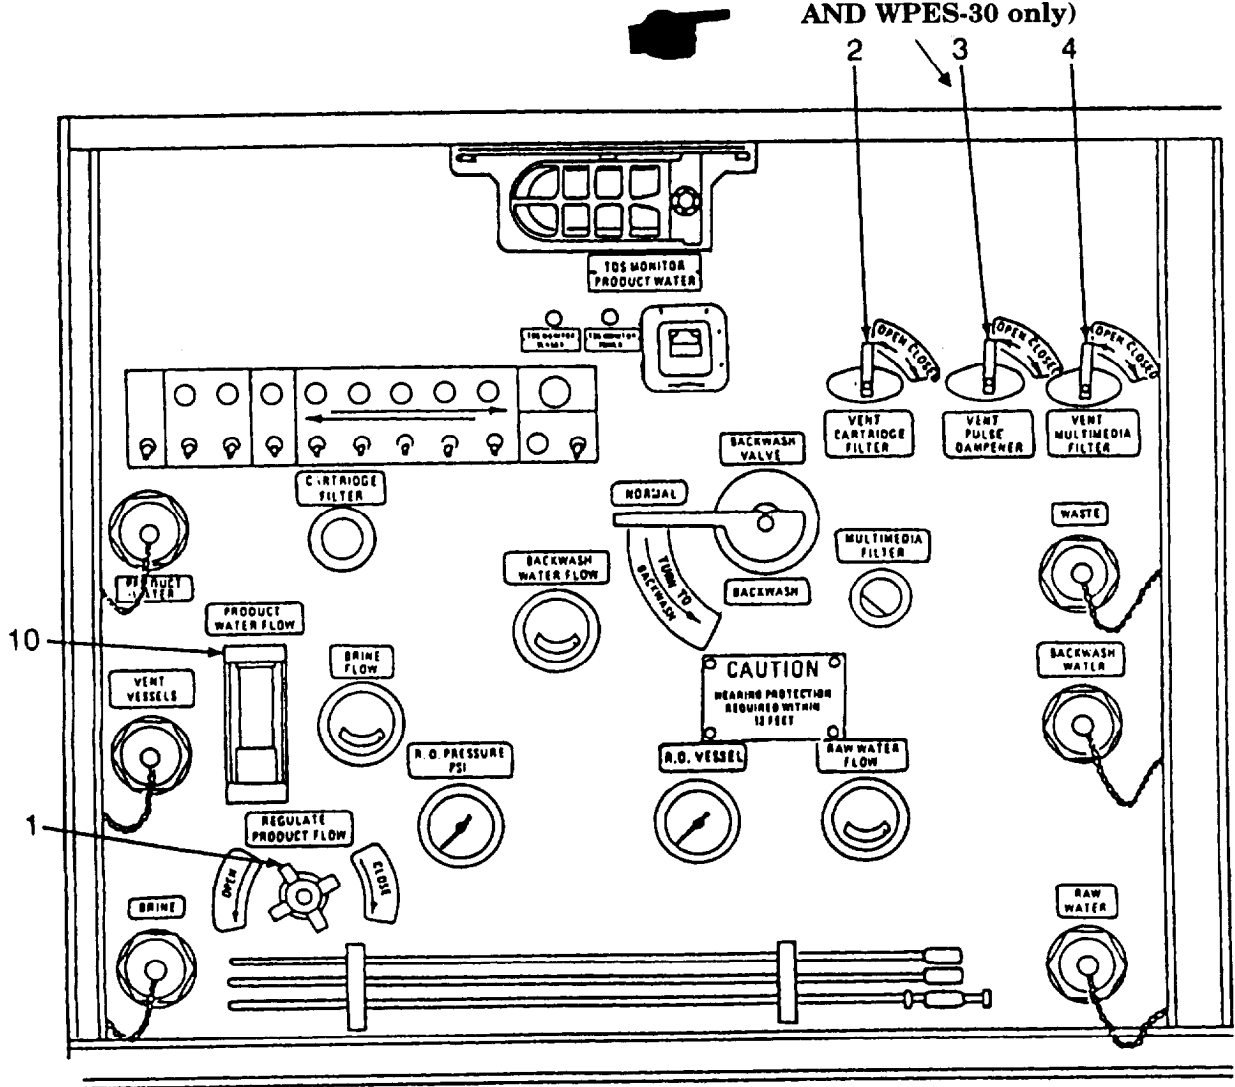

Figure 2-74. Shutdown Position of Control Panel Switches and Valves.
- (3) Turn REGULATE PRODUCT FLOW valve (1, figure 2-74) to fully OPEN.
- (6) Set VENT CARTRIDGE FILTER valve (2, figure 2-74) to OPEN.
- (7) Set VENT PULSE DAMPENER valve (3, figure 2-74) (Models WPES-10, WPES-20, and WPES-30) to OPEN.
- (8) Set VENT MULTIMEDIA FILTER valve (4, figure 2-74) to OPEN.
- (9) Set R.O. PUMP switch (5, figure 2-74) to STOP.
- (10) Set BOOSTER PUMP switch (6, figure 2-74) to STOP.
- (11) Set CHEMICAL FEED PUMP switch (7, figure 2-74) to STOP.
- (12) Set RAW WATER PUMP NO. 2 switch (8, figure 2-74) to STOP.
- (13) Set RAW WATER PUMP NO. 1 switch (9, figure 2-74) to STOP.